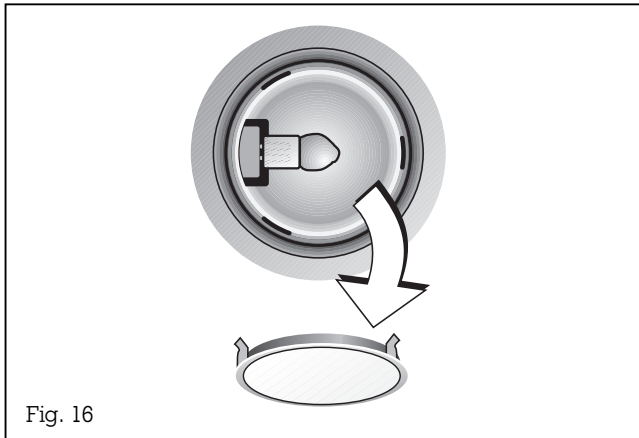

Fig. 16
- Detach the ring from the lamp cover. **Note:** make sure that the glass will not fall out (Fig. 16).